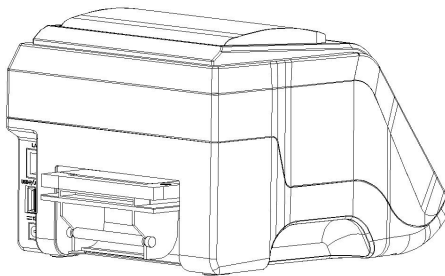

Figure 23: Pulling out the printer from the printer compartment.
- ② Gently pull the printer out of the printer compartment as shown in **Figure 23**;